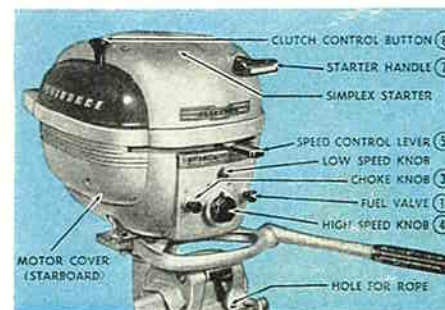

Fig. 3
CAUTION: It is "good insurance" to tie motor to boat with stout rope so that if motor becomes loose accidentally, rope will prevent loss overboard. Rope should be fastened to hole in stern bracket. (Fig. 3).
1. Open fuel valve by turning Fuel Valve Knob located on port side of control panel (Fig. 3) counter-clockwise as far as possible.
Button located at starboard side of motor on top of starter housing. (Fig. 3). This sets clutch to "NEUTRAL" position.
3. Pull out Choke Knob located at starboard side of control panel (Fig. 3) all the way.
4. Turn High Speed Knob (large knob in center of control panel) (Fig. 3) to "RICH" position.
5. Set Speed Control Lever (Fig. 3) to "START NEUTRAL" position.
8. After motor starts push in Choke Knob (Fig. 3) and push Clutch Control Button down. (Fig. 3) This engages clutch.
by indicator on control panel and slowly adjust High Speed Knob (Fig. 3) until motor runs smoothly.
10. To control speed move Speed Control Lever (Fig. 3) in directions
TO "START IN GEAR" NOTE: Clutch Control Button (Fig. 3) must be down before Speed Control Lever can be placed to "START IN GEAR"; otherwise above instructions apply.
STARTING WARM MOTOR Do not disturb High Speed Knob (Fig. 3) otherwise above instructions apply.
REVERSE The Fleetwin motor permits full 360° steering. Reversing is accomplished by turning motor one-half turn. It is advisable to slow the motor down to "START NEUTRAL" position before attempting to swing motor into reverse. The clutch may also be disengaged by pulling up on Clutch Control Button (Fig. 3) if so desired. A special lock arrangement built into the drive housing locks the motor against tilting while reversing. Use extra care while running in reverse, so as not to strike any obstruction, thus avoiding possible damage to lower unit parts, as tilting feature functions only in "FORWARD" position.
NEUTRAL CLUTCH: The purpose of the "NEUTRAL CLUTCH" is to dis-engage the motor power from the propeller, which is done by pulling up on the Clutch Control Button. (Fig. 3) This permits easier and safer starting of motor and aids in the maneuverability of the boat in confined or crowded places. Engagement is accomplished by pressing the CLUTCH CONTROL BUTTON down. This shifting of clutch can be done only with the speed control lever at "START NEUTRAL" or slower positions.